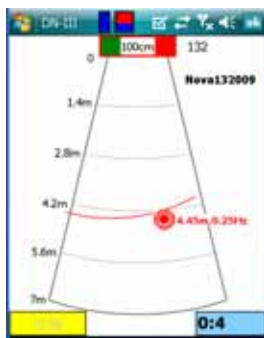
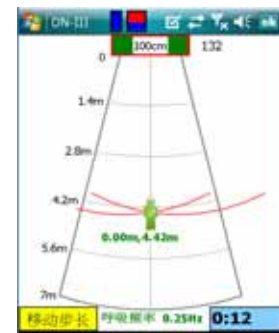

Figure 12 Two-dimensional imaging interface—during the second detection
Figure 13 Two-dimensional imaging interface
d. When the respiratory signal of second detection exceeds a certain threshold, as figure 12, the upper right red square turns green, and draw a curve with center at the square. The first curve and second curve intersect at one point, and get the offset distance between target and radar host, as figure 13.